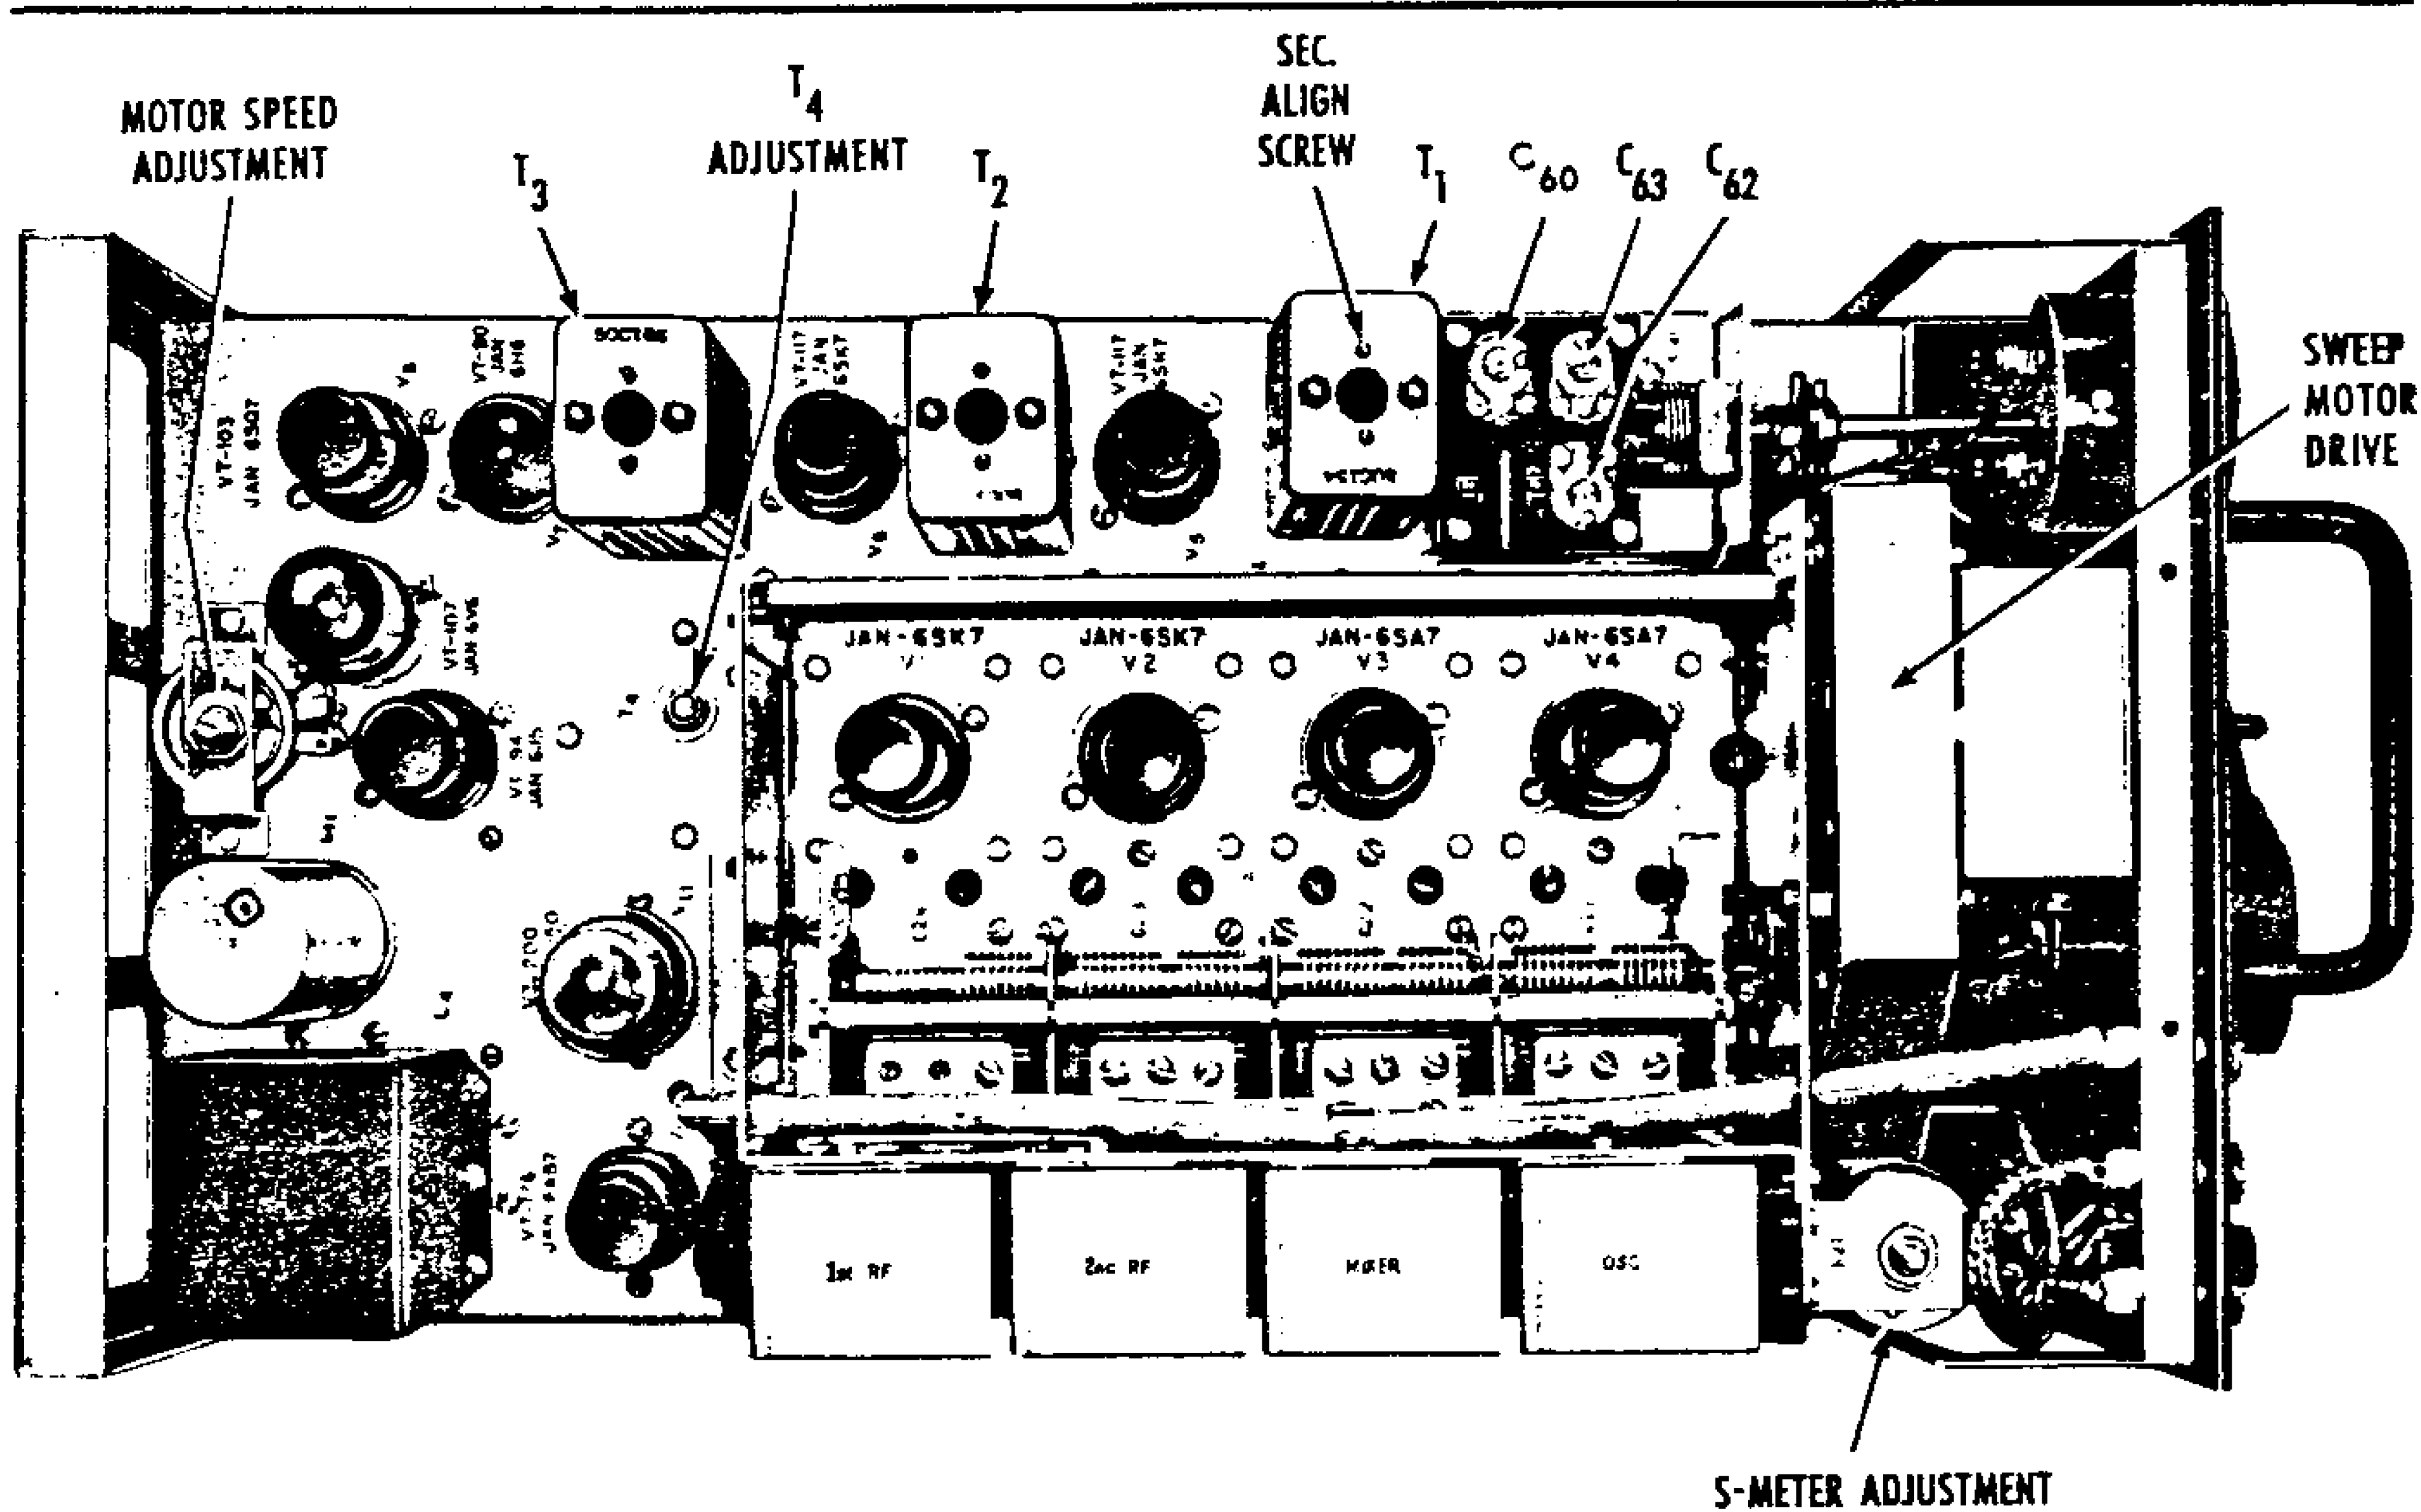

Figure 5-2. Radio Receiver R-45/ARR-7 — Top View, Showing Adjustments for Alignment
**5-26. I-F ALIGNMENT. (See figure 5-2.)**
5-28. B.F.O. ADJUSTMENT. (See figure 5-2).